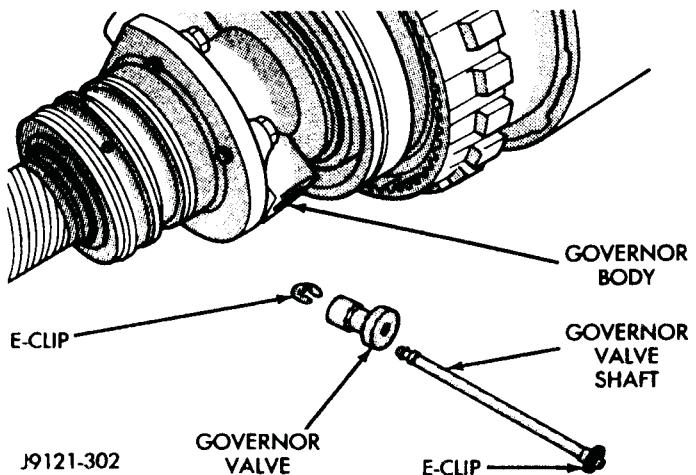

Fig. 16 Governor Valve And Shaft Removal/ Installation
(1) Remove E-clip from one end of governor valve shaft and remove shaft and valve (Fig. 16).